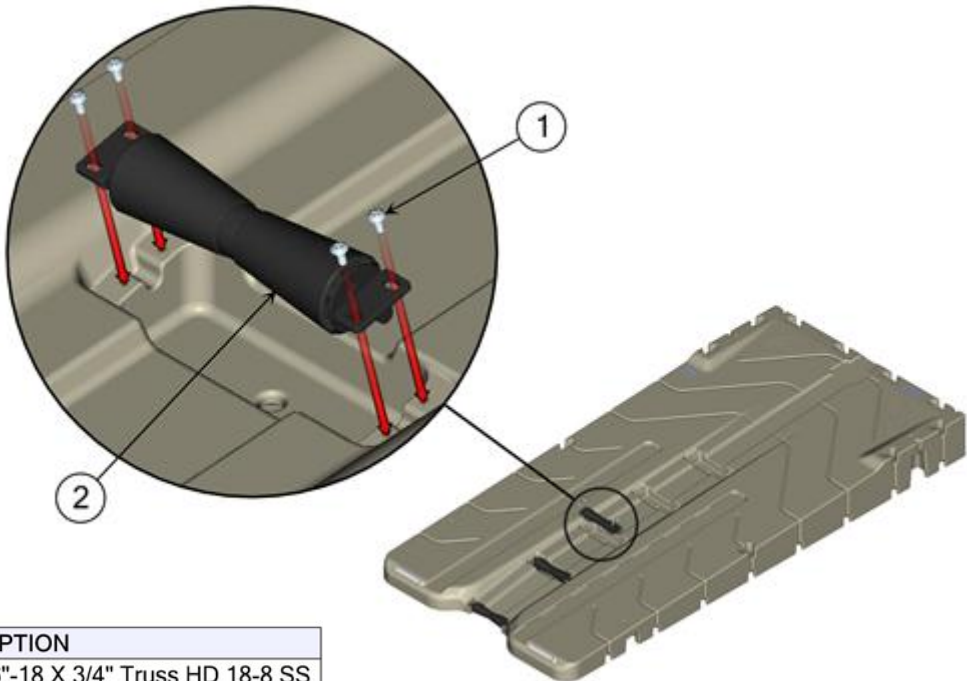

Figure 27.
- 2. Place roller (Item 2) in roller pocket with roller shaft down (Figure 27).